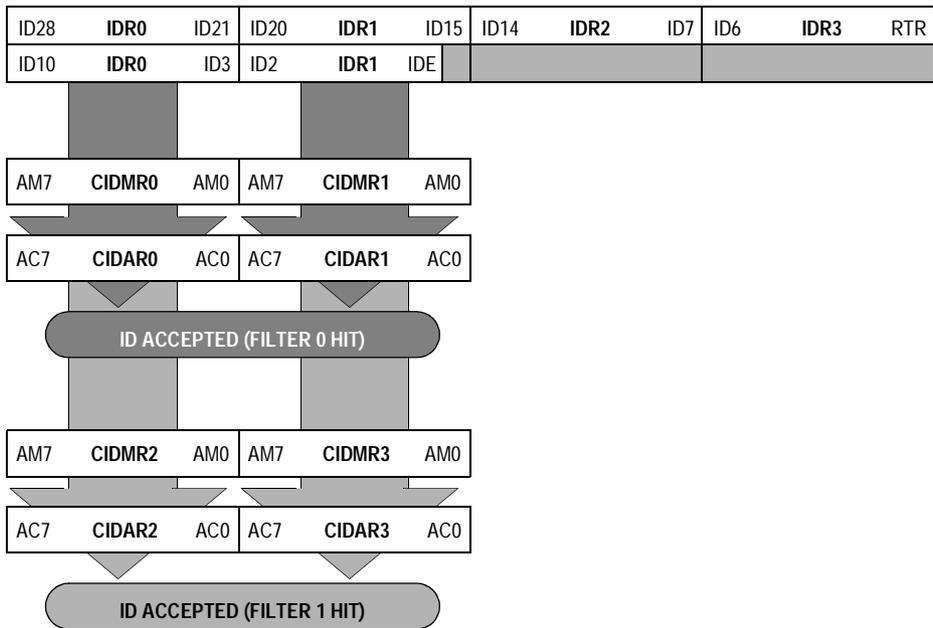

Figure 20-4. Dual 16-Bit Maskable Acceptance Filters
- Two identifier acceptance filters, each to be applied to a) the 14 most significant bits of the extended identifier plus the SRR and the IDE bits of CAN2.0B messages, or b) the 11 bits of the identifier plus the RTR and IDE bits of CAN 2.0A/B messages. **Figure 20-4** shows how the 32-bit filter bank (CIDAR0-3, CIDMR0-3) produces filter 0 and 1 hits.